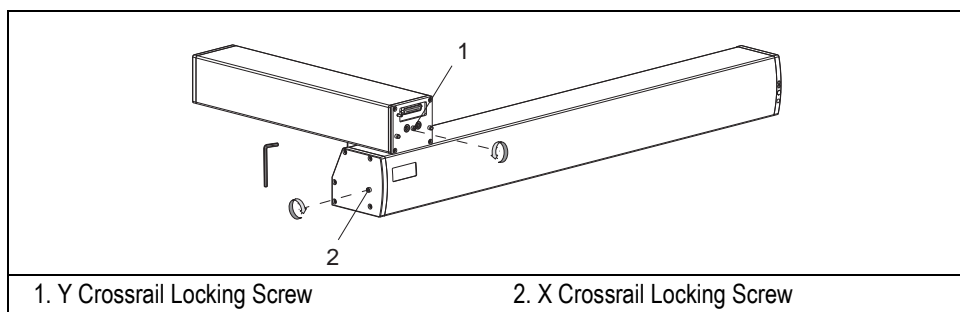

Figure 3-25. X and Y Crossrails Locking Nuts
8. Remove the X and Y crossrails locking Allen screws, as shown in Figure 3-25, in order to release the relevant movement mechanism. These screws are recognizable by a label attached to the screws.